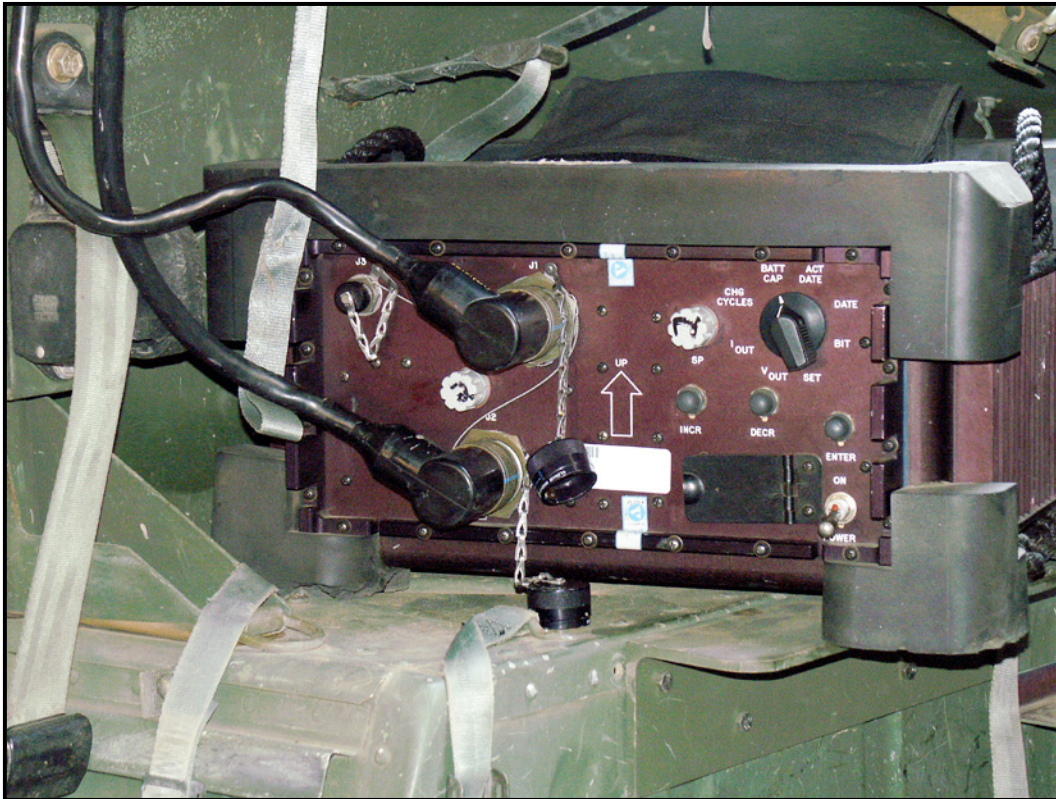

Figure 3-19. BPS stow position.
- c. Stow the BPS on the HMMWV (Figure 3-19). The driver-loader—
- (1) Carries the BPS to the HMMWV and stows it behind the rear passenger seat, facing forward.
- (2) Secures the BPS in place with the straps.
- (3) Connects the vehicle power cable to the BPS J1 connector and the HIC to the BPS J2 connector.